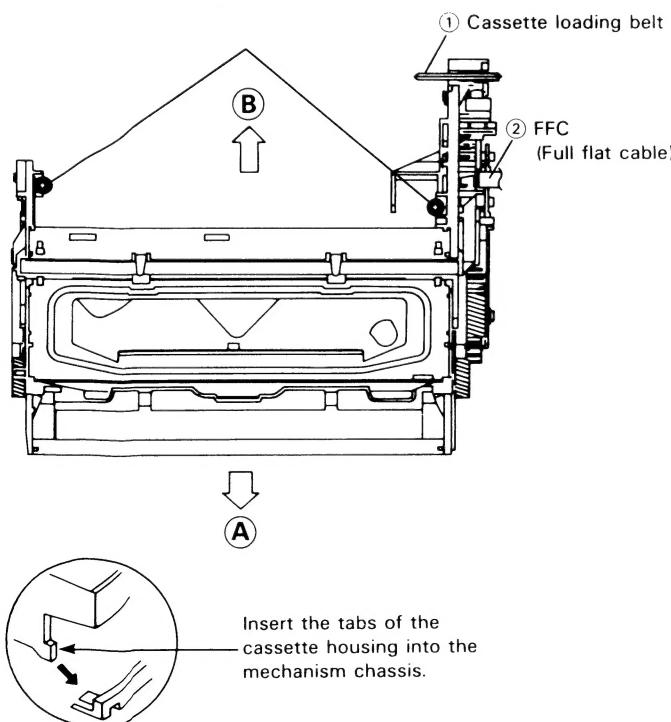

Figure 1-1.
2. Remove the cassette loading belt ①.
3. Disconnect the FFC (Full Flat Cable) ② at the right side of the cassette housing control assembly.
5. Move the cassette housing control assembly (Fig. 1-1) in the direction of arrow  $\Rightarrow$  ③, and pull it out straight upward.